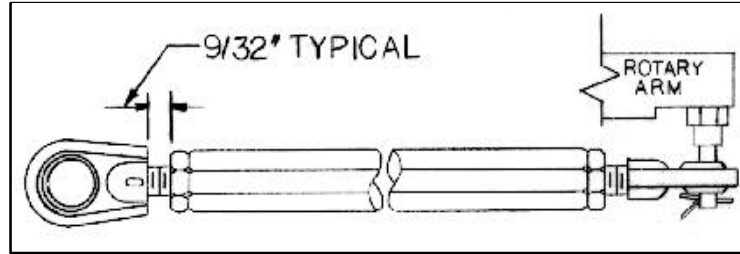

FIGURE 2-2: ROD ADJUSTMENT
1. Refer to **Figure 2-2**. As packaged, the power door operators are in the "door closed" position. The rod ends should be adjusted as shown: